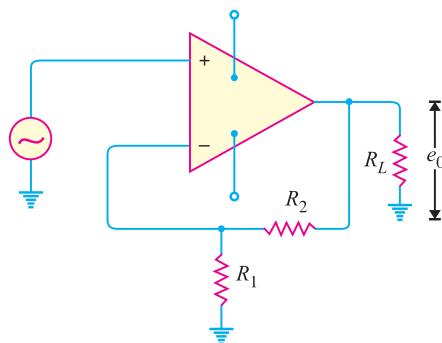

Fig. 13.30
6. Fig. 13.30 shows the negative feedback amplifier. If the gain of the amplifier without feedback is 10^5 and $R_1 = 100\ \Omega$, $R_2 = 100\text{ k}\Omega$, find (i) feedback fraction (ii) gain with feedback. [(i) 0.001(ii) 1000]